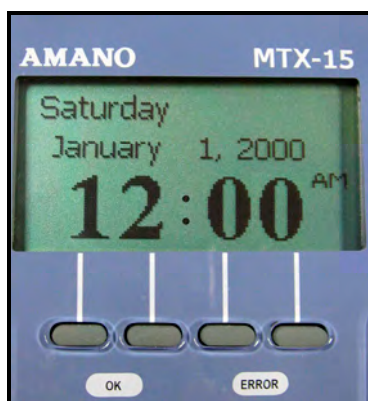

Figure 14: MTX-15 Initial Startup Display
- Step 3.** Once the default time is displayed (see **Figure 14**), you can swipe a badge to verify that the badge reader is working. The badge number will be displayed at the top of the screen.